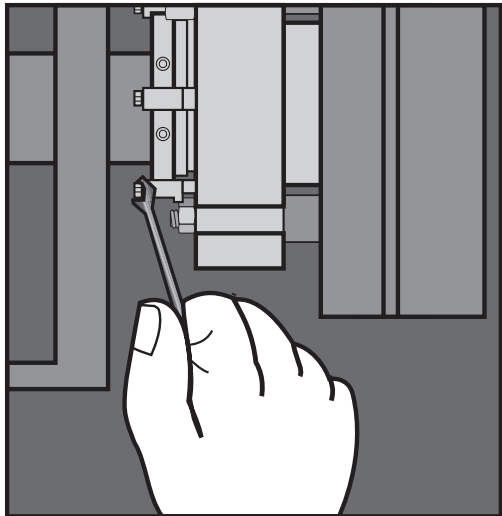

Figure 11
2.8 **Rotate the setting devices 180°** from the sleeve drive collar and retighten. See Figure 11. Loosen the hex head bolts attaching theabronze centering devices to the gland setting devices, rotate 180° to clear the drive collar. Retighten the hex head bolts to store the tabs on the gland.